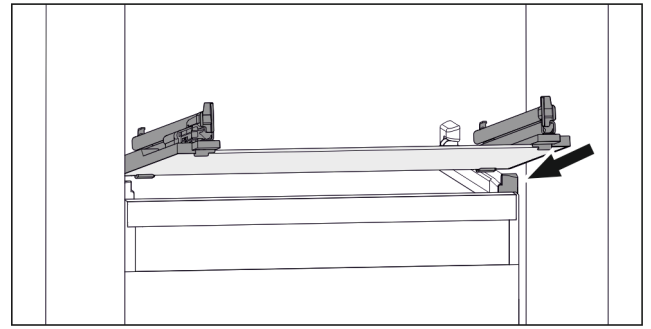

Fig. 43 Example illustration of glass shelf
- ▶ Position glass shelf at an angle behind the stoppers. (see Fig. 43)